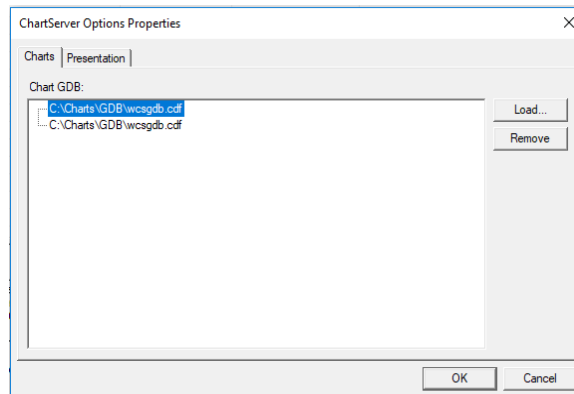

Figure 76: ChartServer Option Properties
5. Click the LOAD button on the ChartServer Options Properties Screen (Figure 76).